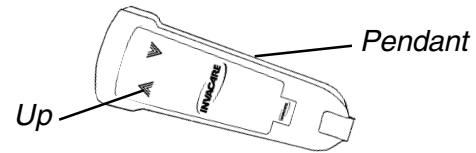

FIGURE 1 - RAISING THE BATH LIFT
1. Raise the Bath Lift seat by pressing the UP (↑) button on the pendant (FIGURE 1).